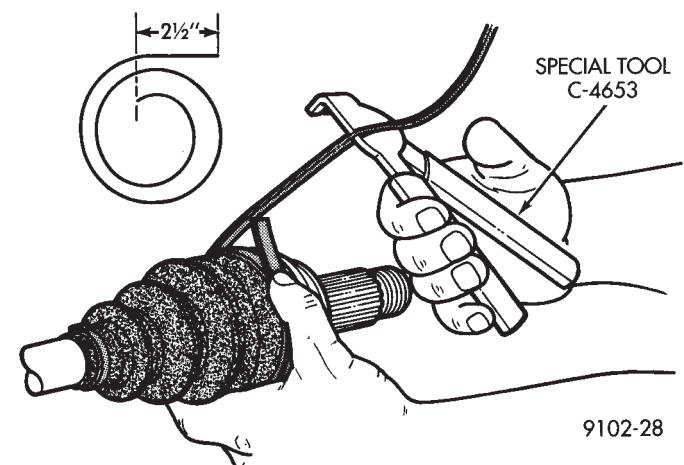

Fig. 2 Measure & Cut Binding Strap
(3) Slide the large diameter of the boot into the locating groove on the C/V Joint Housing.
(4) Wrap binding strap around boot **twice**, PLUS 63 mm (2-1/2 inches) (Fig. 2).